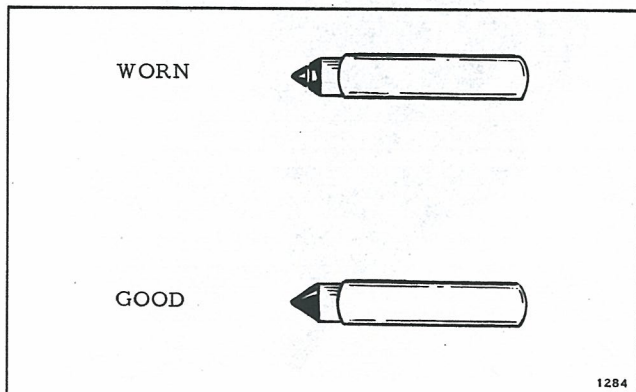

Figure 3-9. Inlet Needle Valve Wear
b. Inspect the inlet needle valve for grooves, nicks, or scratches. If any are found, replace float valve assembly. See Figure 3-9. Gum or varnish on the needle valve must be removed with OMC Accessory Engine Cleaner. DO NOT attempt to alter the shape of the needle valve.